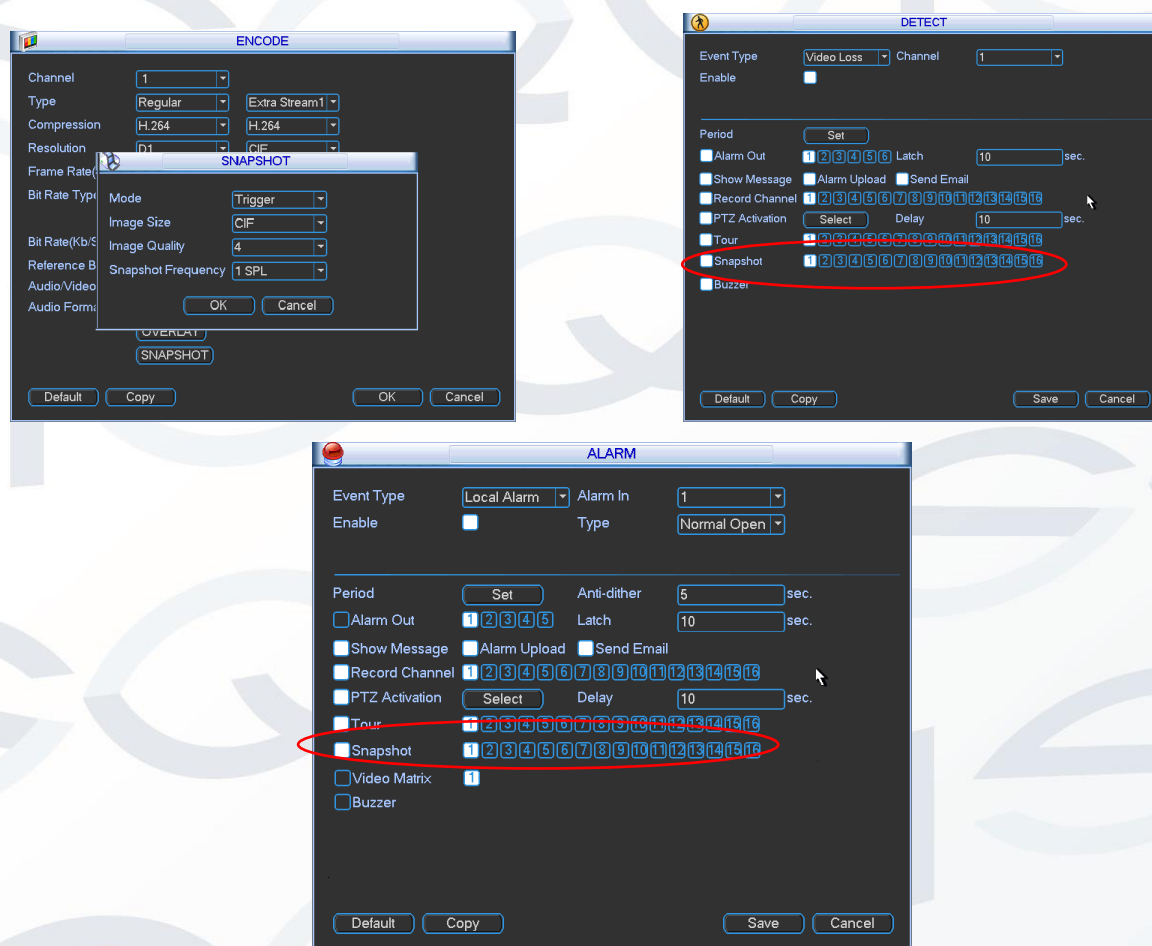

Figure 4-22
- In Encode interface, click snapshot button to input snapshot mode, size, quality and frequency. See the interface on the left of Figure 4-22.
- In Detect interface please enable snapshot function for specified channels (interface in the middle of Figure 4-22). Or in alarm interface (interface on the right of Figure 4-22) please enable snapshot function for specified channels.
Please refer to the following figure for detailed information. See Figure 4-22: